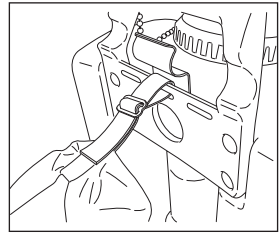

Figure 2.
2. Install the single strap of the shoulder straps through the center slot of the carry handle. Pull the strap over the bar and secure through the buckle. **See Figure 2.**